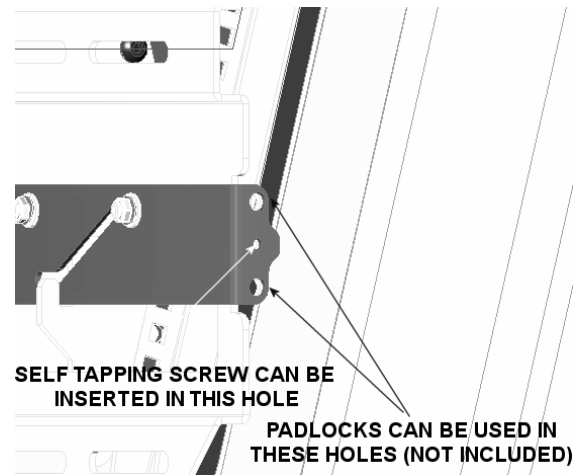

Figure 14. Added Security
3. If desired, install self tapping screws (220) and/or padlocks (not provided) for additional security (see Figure 14).